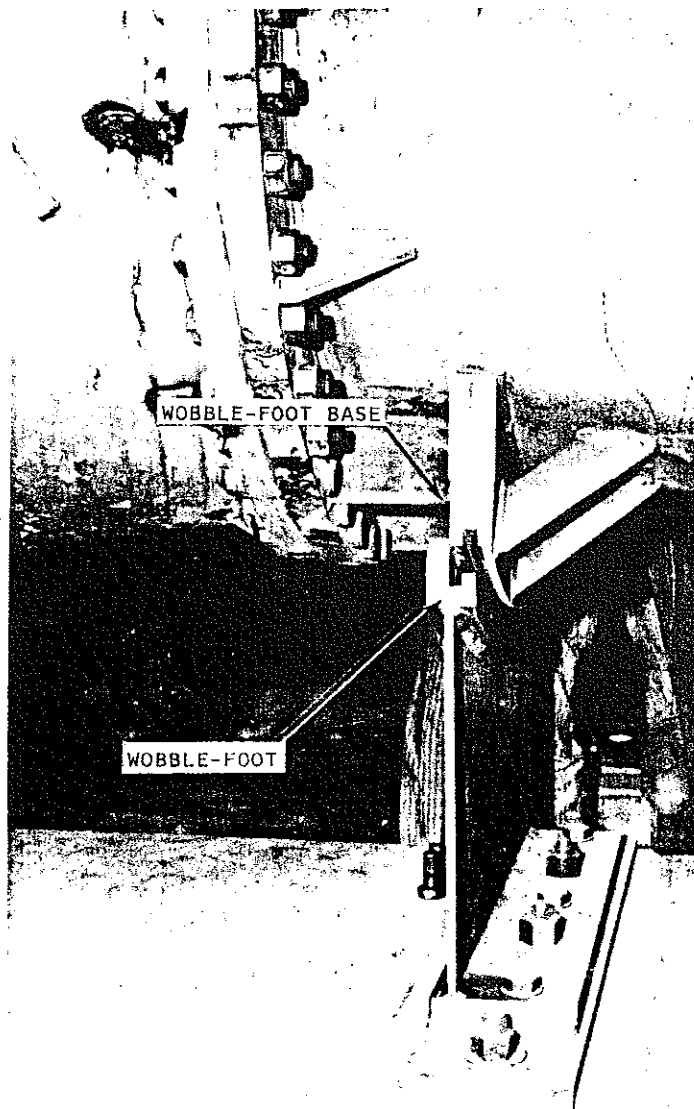

FIG. 8. WOBBLE-FOOT
- m. Remove five bolts from wobble-foot support to compressor-to-floor brace. The wobble-foot remains bolted to the floor (see Figure 8), or if needed remove from the floor for shipping.